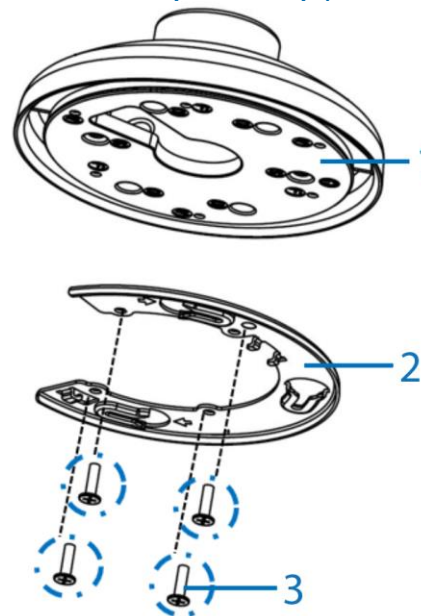

Figure 14
4. Hold the flat bracket (2) (Figure 14) up to the adaptor plate (1) (Figure 14) and align the four holes on the flat bracket with the four holes on the adaptor plate.
5. Insert the four screws (3) (Figure 14) into the two holes and use a screwdriver to securely attach the flat bracket to the adaptor plate.